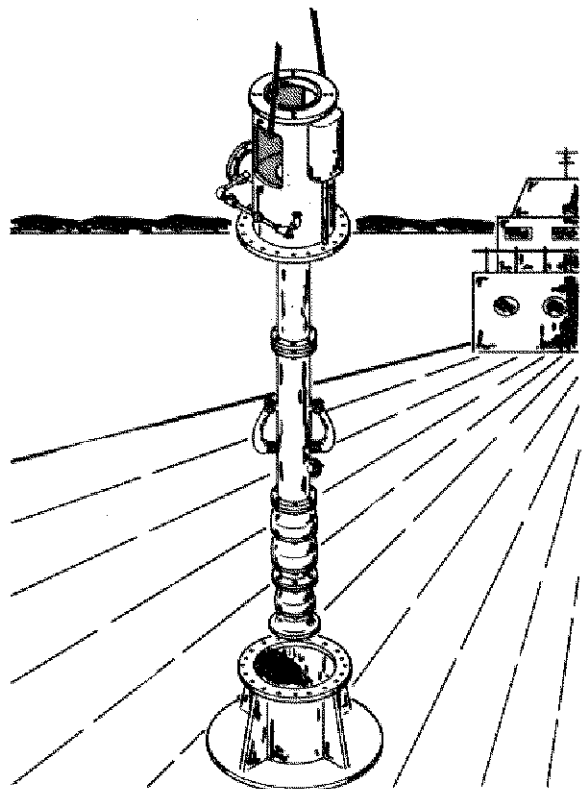

FIGURE 4-1. PUMP INSTALLATION
E. Lower the bowl assembly and position over the barrel opening. (See Figure 4-1.)